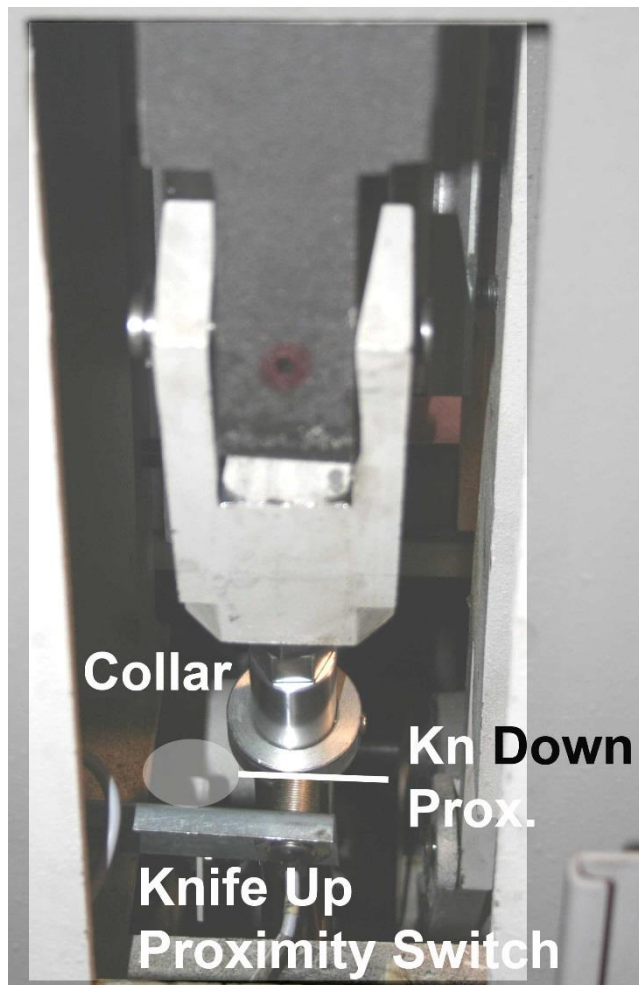

Figure 36
5. Move the collar (see Figure 36) until it is centered on the diameter of the proximity switch (limit switch). Tighten the setscrew in the collar to hold it in place. The distance between the collar and the proximity switch should be no more than 1/8" (3.2mm) of an inch.